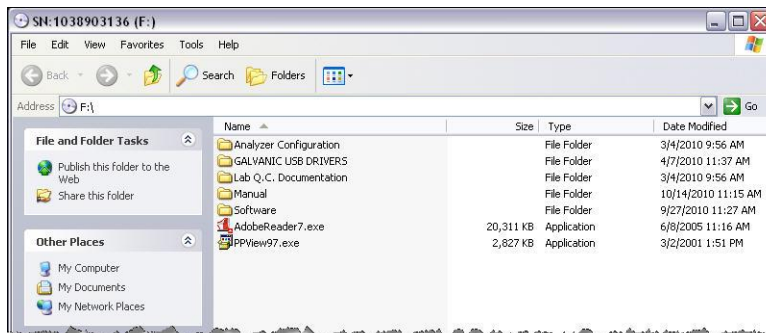

Figure 3-5: CD Contents
- a) Insert the compact disk that was included with the system into the CD ROM drive of the personal computer. Use Windows Explorer to view the contents of the CD (Figure 3-5).